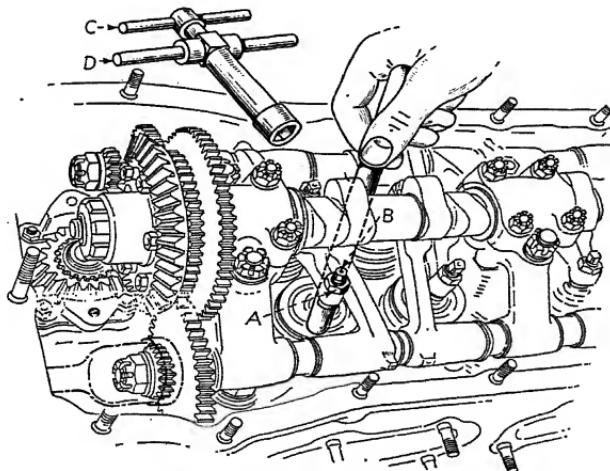

FIG. 44.—Adjusting tappet clearance.
*Adjusting Tappet Clearances.*—Engage the combined key wrench, shown in Fig. 44, with tappet lock nut *A* and tappet screw *B*. Hold the handle *C* and turn handle *D* in counterclockwise direction to slacken nut *A*. With the rocker pad at the base of the cam (that is, *not on the cam contour*), insert the 0.020 in. feeler, as shown. If the feeler cannot be inserted, unscrew tappet *B* until it can.